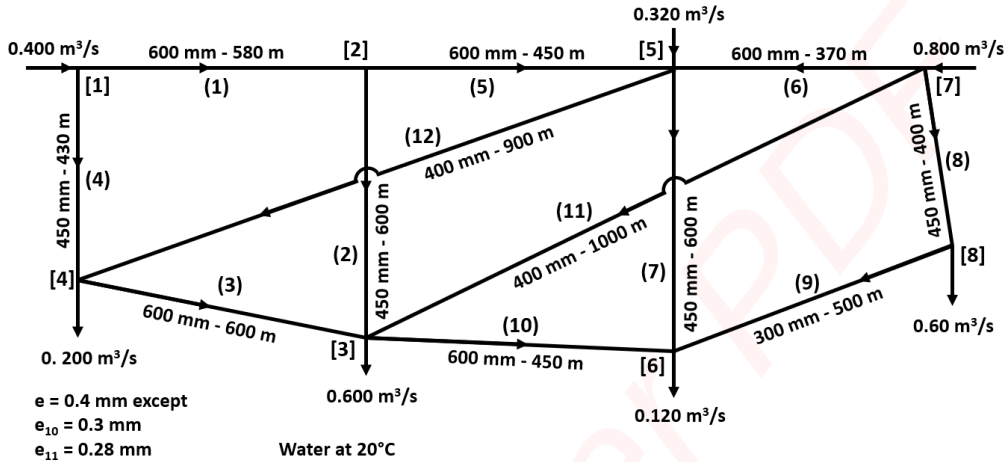

Figure 3: Pipe network to analyze. Figure adapted and modified from Jeppson (1974), and the values have been changed.
d) Use WNTR and estimate the effect of uncertainty in pipe conditions of pumping power needed to supply network shown in figure 3. Use your code and Monte-Carlo method for propagating